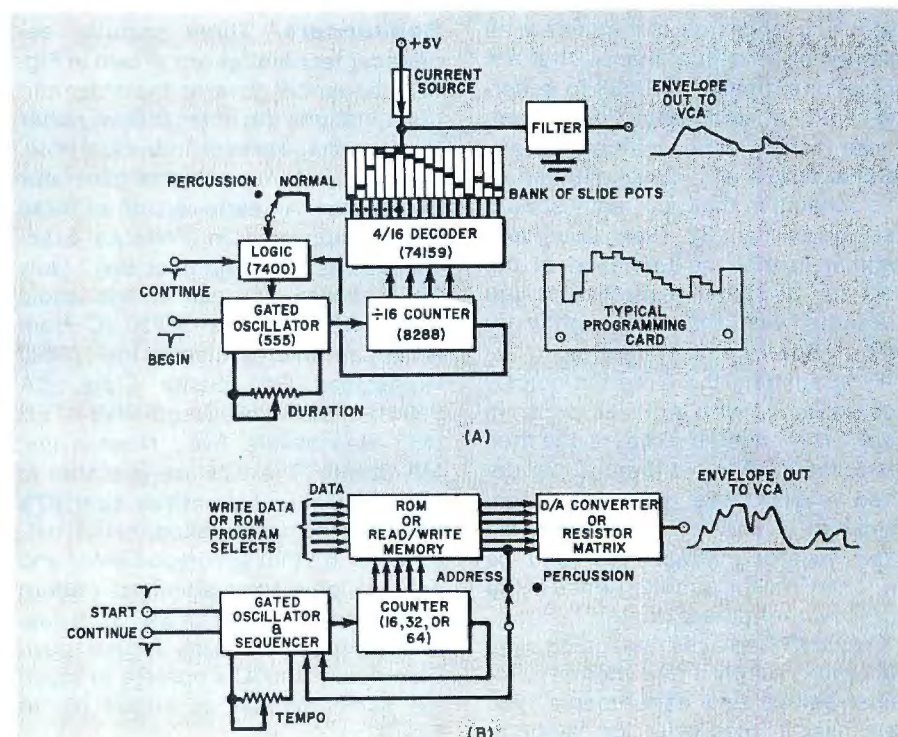
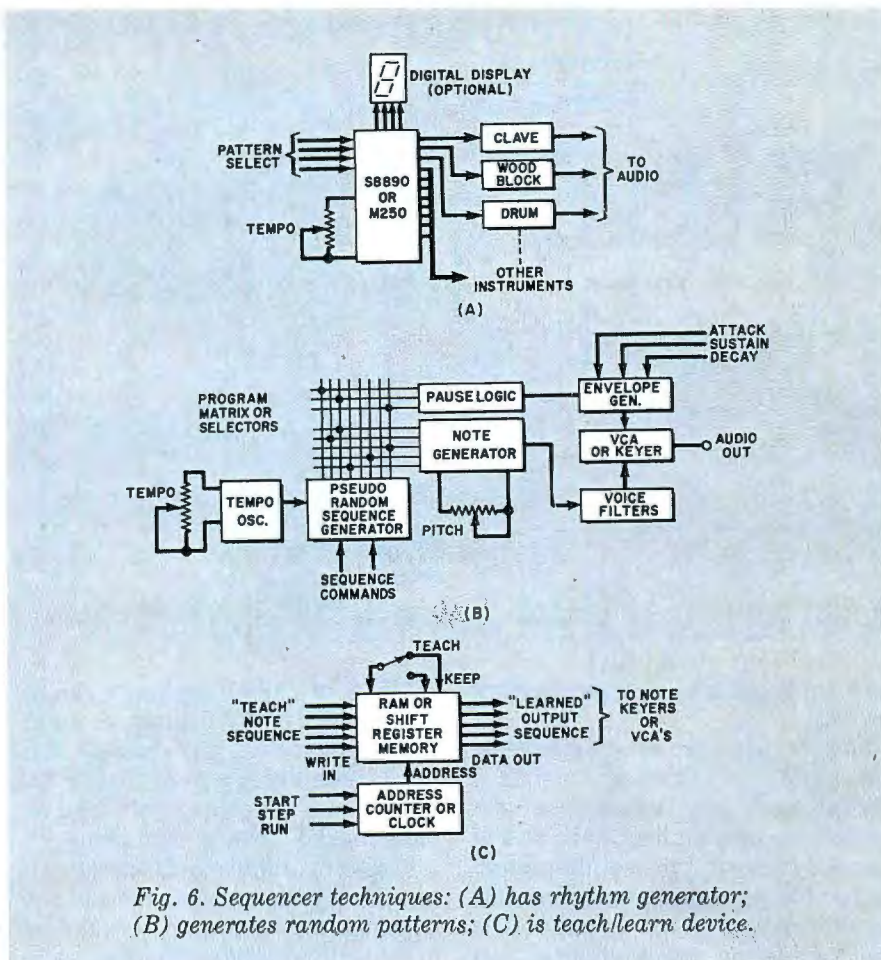

Fig. 5. Output of binary counter is shaped by programmed pots in (A). In (B), pots are replaced by digital memory.
Fig. 6. Sequencer techniques: (A) has rhythm generator; (B) generates random patterns; (C) is teach/learn device.
Purely digital techniques can also be used for generating the envelope, but as of now, their added complexity limits them to monophonic instruments or, at best, to a time-shared or priority hierarchy in an instrument. Two typical digital circuits are shown in Fig. 5.
Sequencers. Three popular sequencer techniques are shown in Fig. 6. A sequencer governs the order and combinations the notes follow, rather than the shape of each individual note. Technique (A) has a rhythm generator or sideman. An early version of these circuits appeared in POPULAR ELECTRONICS as the "Drummer Boy" (July 1971). Today, you can do the whole thing with a single S8890 IC from American Microsystems, Inc. (3800 Homestead Rd., Santa Clara, CA 95051) or the M250 IC from SGS-ATES (435 Newtonville Ave., Newtonville, MA 02160). The IC's are available at about \$25 in unit quantities. Both IC's generate the combination rhythm patterns for rhythm accompaniment and are available in a standard pattern (traditional rhythms) as well as in custom patterns at much higher cost. Electrically, the IC's operate in much the same manner as circuit (B) in Fig. 5.
Circuit (B) in Fig. 6 is a composer/synthesizer that employs a pseudo-random sequencer to generate ran-
Circuit (C) in Fig. 6, a variation of circuit (B) in Fig. 5, is a teach/learn sequencer. A commercial version called the Model DS-2 is available from Oberheim Electronics (1549 Ninth St., Santa Monica, CA 90401). Teach/learn devices of this type can employ either RAM's or shift-register memories. One good choice for experimenters would be the Signetics hex 32- and hex 40-bit shift registers (2518 and 2519), particularly since they are beginning to appear on the so-called "surplus" market for as little as 25¢ each. Brand new IC's directly from the factory are currently selling for less than \$5 and form the basis for many teach/learn music experiments. ♦